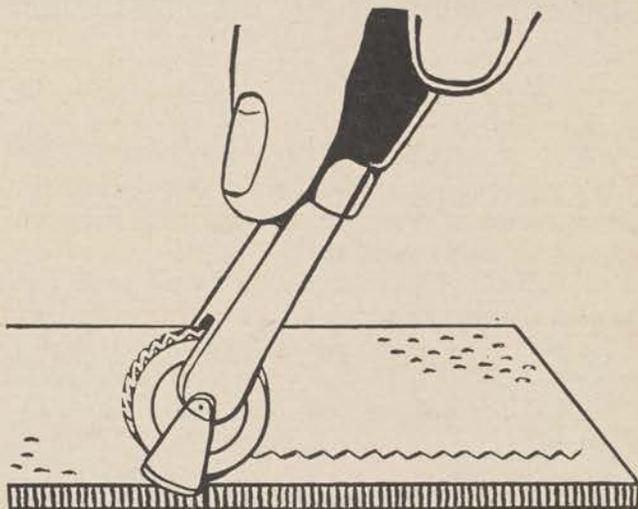

Figure 27.
*d.* The embossing wheel, which can be purchased in a variety of patterns, is really a cylindrical stamp used chiefly for borders (fig. 27). The leather is